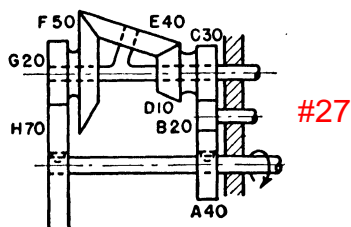

Fig. P 11.21
11.21. In Fig. P 11.21, gears *A* and *H* turn once. Determine the number and direction of the turns of the arm.